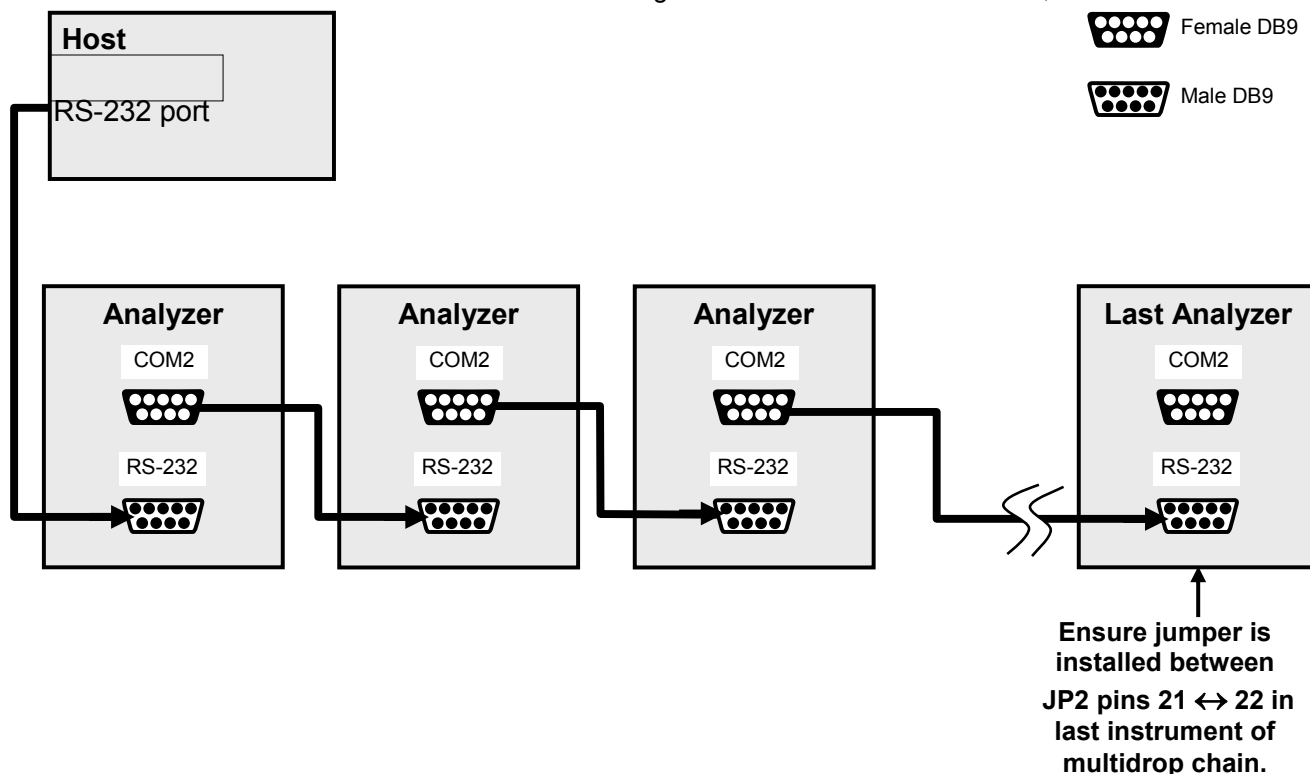

Figure 3-16: RS-232-Multidrop PCA Host/Analyzer Interconnect Diagram
10. Referring to Figure 3-16 use straight-through DB9 male → DB9 female cables to interconnect the host RS232 port to the first analyzer's RS232 port; then from the first analyzer's COM2 port to the second analyzer's RS232 port; from the second analyzer's COM2 port to the third analyzer's RS232 port, etc., connecting in this fashion up to eight analyzers, subject to the distance limitations of the RS-232 standard.